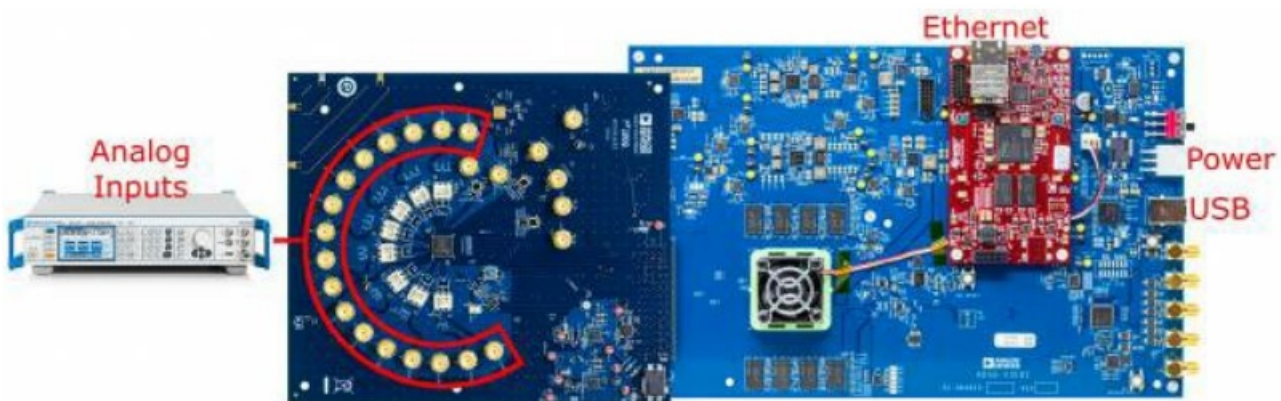

Figure 1. AD9083EBZ Evaluation Board and ADS8-V3EBZ Data Capture Board
1. Ensure that the connections to ADS8-V3EBZ are as shown in Figure 1. It is not necessary to connect the AD9083EBZ evaluation board.
- To start using the AD9083EBZ, first ensure the board is connected as shown in Figure 1. Next, ensure that the ADS8-V3EBZ board is powered on before opening ACE.